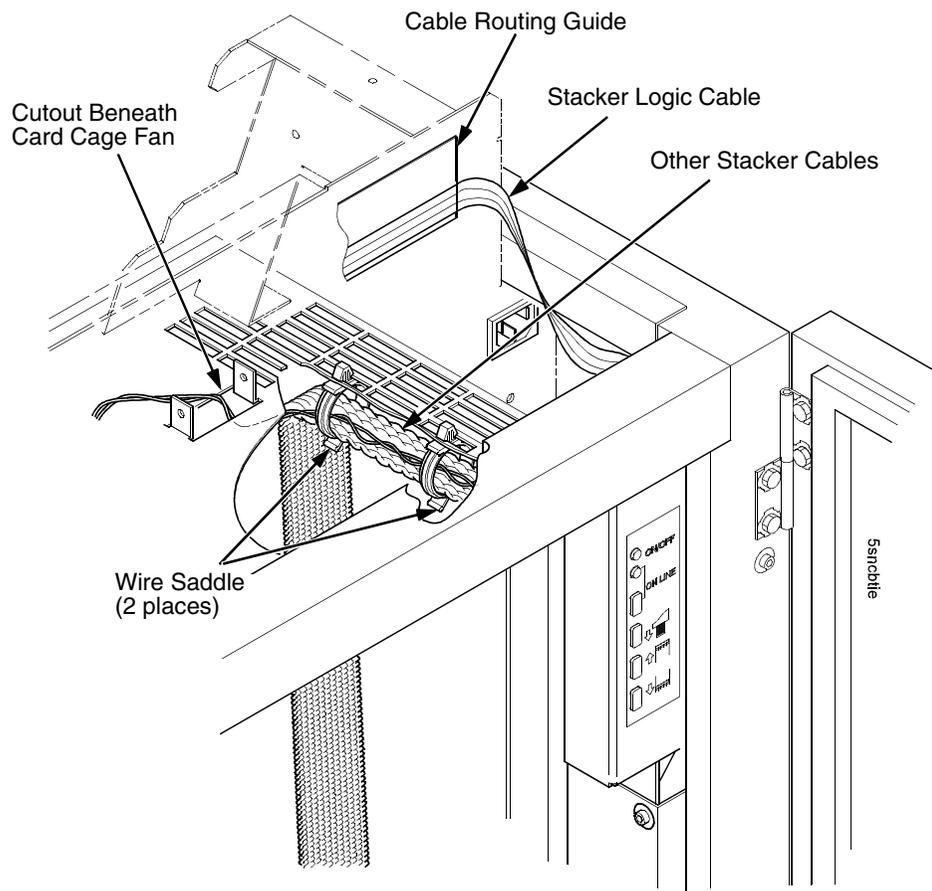
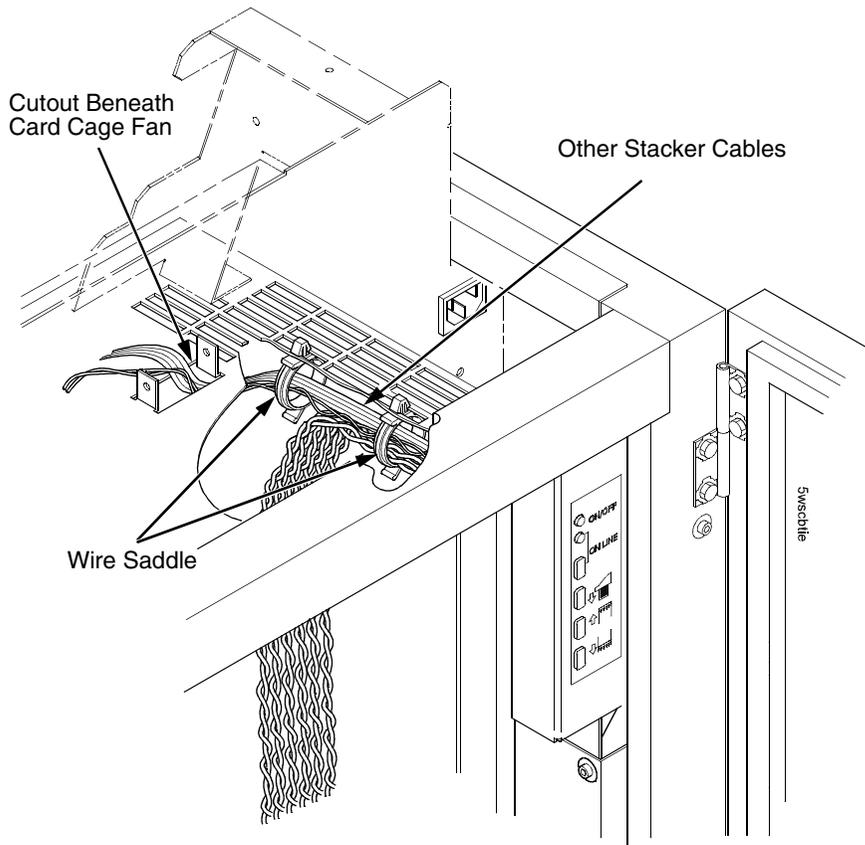

Figure 91. Securing Stacker Cables in a Printer With a CMX/CFX Controller Board
Figure 92. Securing Stacker Cables in a Printer With a PSA3 Controller Board
33. Bundle the stacker control panel cables in the wire saddles located under the card cage. Tie wrap the cables so they do not catch in the stacker mechanism as it moves up and down. Route the stacker rail and frame cables so they move without snagging as the elevator assembly moves up and down. (CFX/P5220 Printer: see Figure 91. PSA3/P5224 Printer: see Figure 92.)